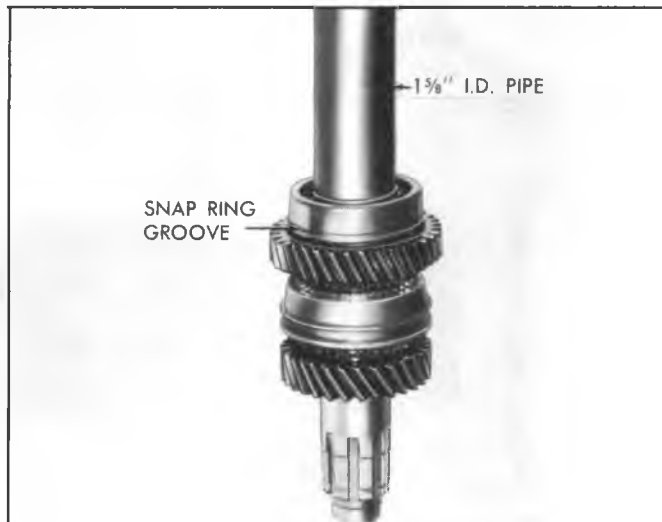

Fig. 13B—Installing Rear Bearing
4. Install the first speed gear (with hub toward front) and using 1 5/8" I.D. pipe cut to a suitable length, press on the rear bearing (fig. 13B).